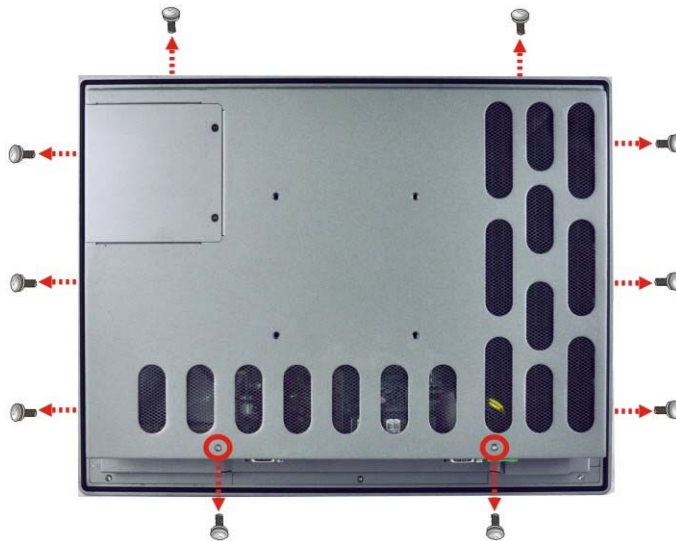

Figure 3-7: Rear Panel Retention Screws
Step 1: Remove a total of ten retention screws from the back cover, eight on the rear of the frame and two on the rear panel (**Figure 3-7**).